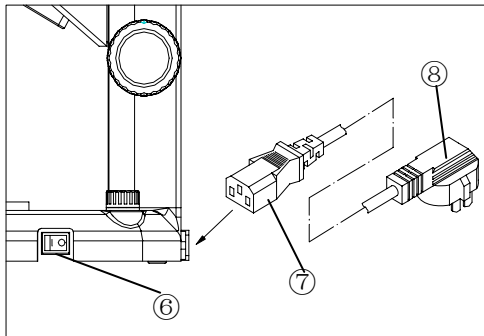

Fig 4
2. 1 Figure 4
2.2.3 Cable connecting (fig.4)